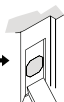

Figure 4d
- Chisel 5/32" (4mm) deep for Strike Plate or until it is flushed (Figure 4d).